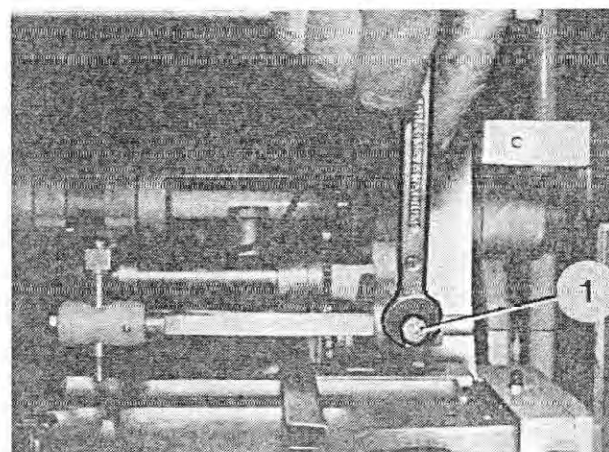

Fig. 168
7. Loosen the locking screw (Figure 168/1) of the sensor rods. Adjust the sensor rods to the marks which correspond to the format. Tighten the locking screw.